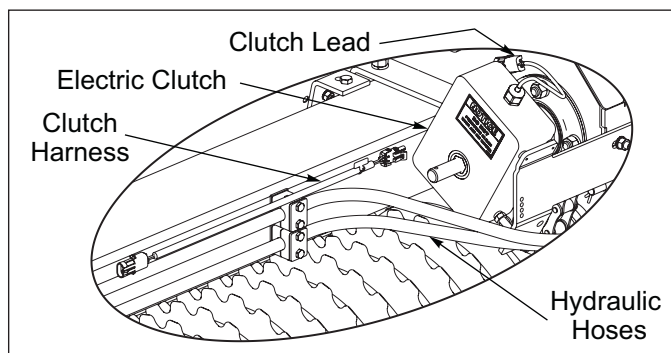

Figure 2-28: Clutch Harness
2. Connect Clutch Harness or Seeder Harness 2-Pin Connector to Clutch Lead and route along Frame and Drawbar/3-PT Hitch. Secure to Frame and Drawbar/3-PT Hitch or to Hydraulic Hoses and Warning Lamp Harness with tie wraps. **See Figure 2-28.**